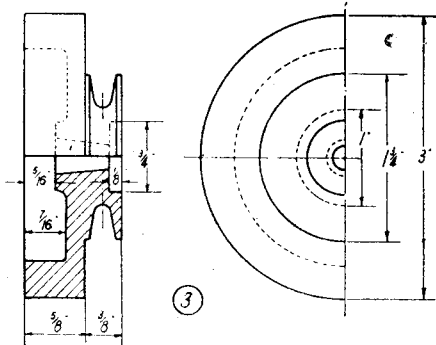

Fig. 33. Flywheel details.
**B**OTH the shape and dimensions of the flywheel for the "Kittiwake" engine (Part No. 3, illustrated in Fig. 33) are subject to modification to suit circumstances of installation, or available material. A cast-iron flywheel has been employed quite successfully on several of the engines built to this design, but many authorities are dubious about the safety of this material at very high speeds, and mild-steel is certainly better in this respect if it can be obtained. One potential risk in the use of a casting is that it may not be perfectly homogeneous, and apart from the reduction in strength which this may cause, it also affects the distribution of weight, and, therefore, the balance. There is always a possibility that the casting may contain quite large blow-holes, and unless these are exposed during machining, their presence cannot be detected without an X-ray test. I have sometimes found large cast flywheels to be badly out of balance after machining all over, although apparently quite sound; and for this reason, a static balancing test (dynamic balancing would be better still, but methods for carrying it out are not generally available to the amateur) is well worth while.